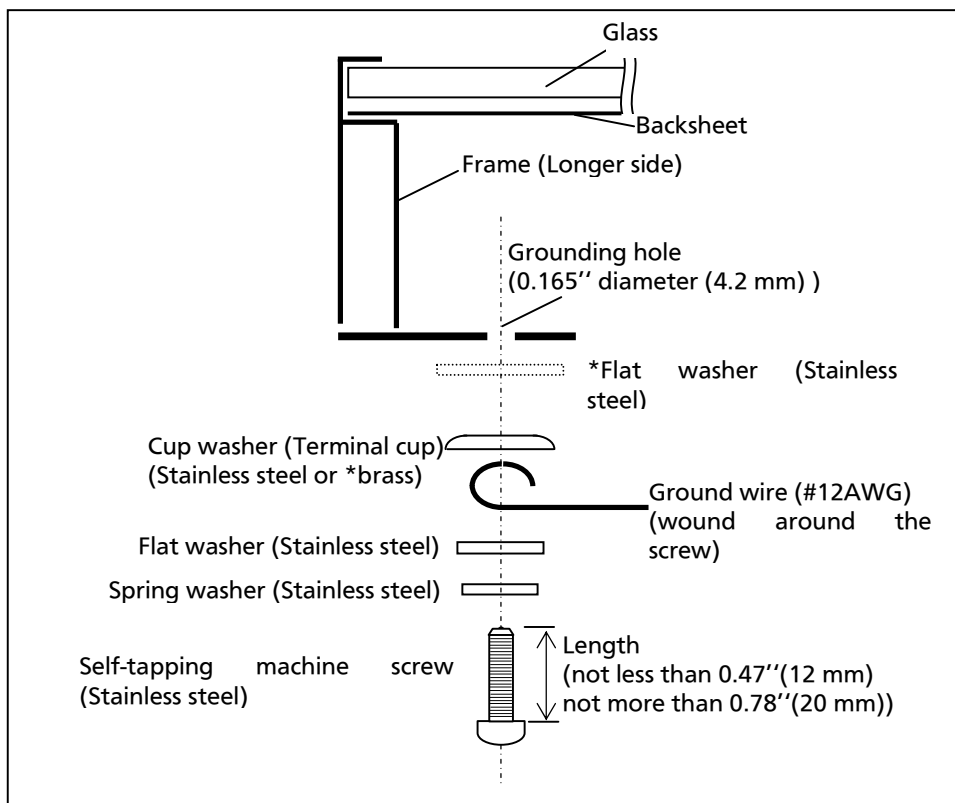

Figure 3.2 (Method 1)
**Wire connection using cup washers** (see Figures 3.2 and 3.3)